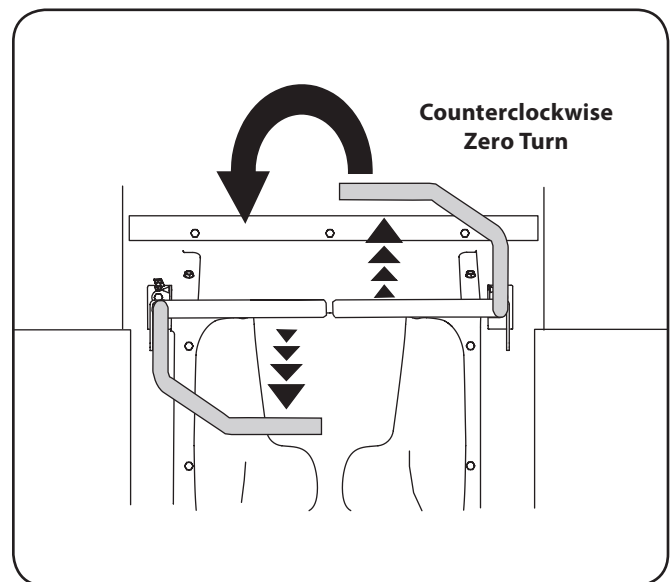

Figure 5-10
3. To turn counterclockwise, move the right control lever forward while simultaneously moving the left control lever rearward. See Figure 5-10.